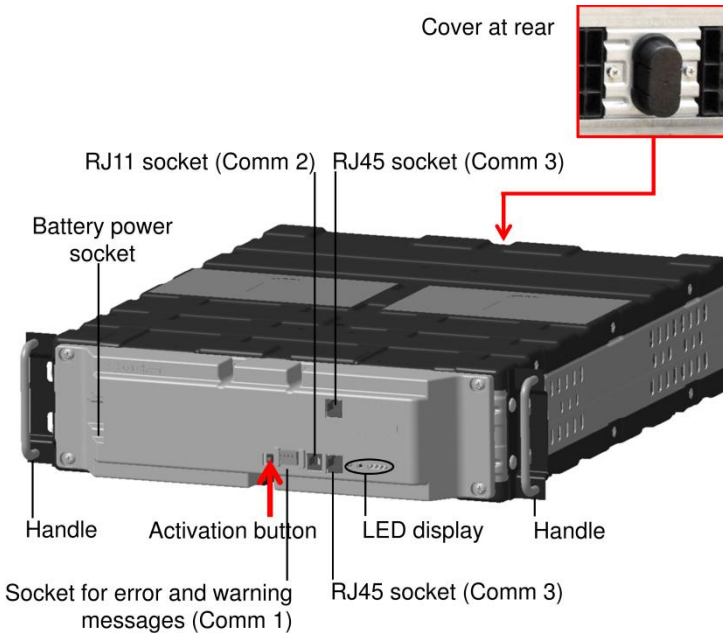
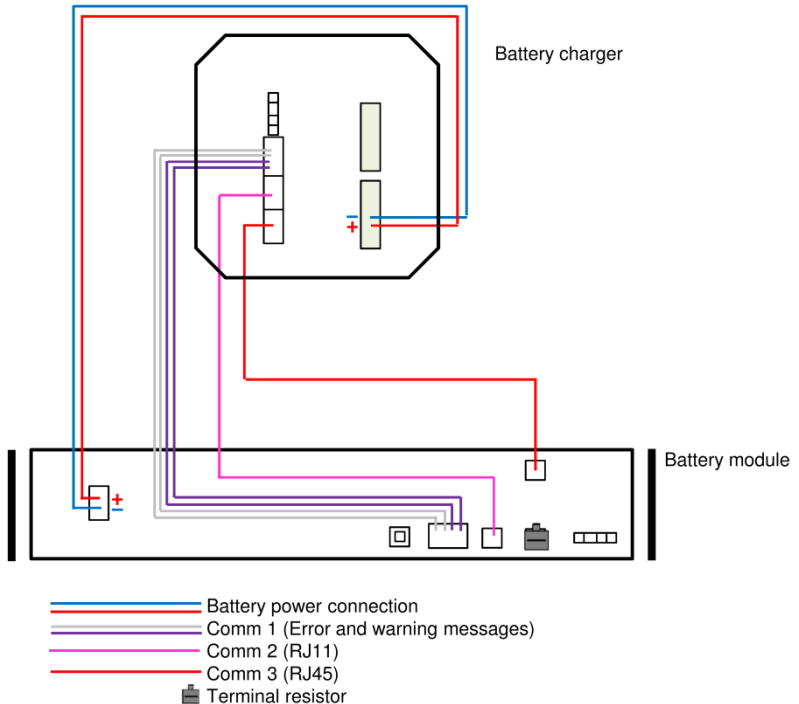
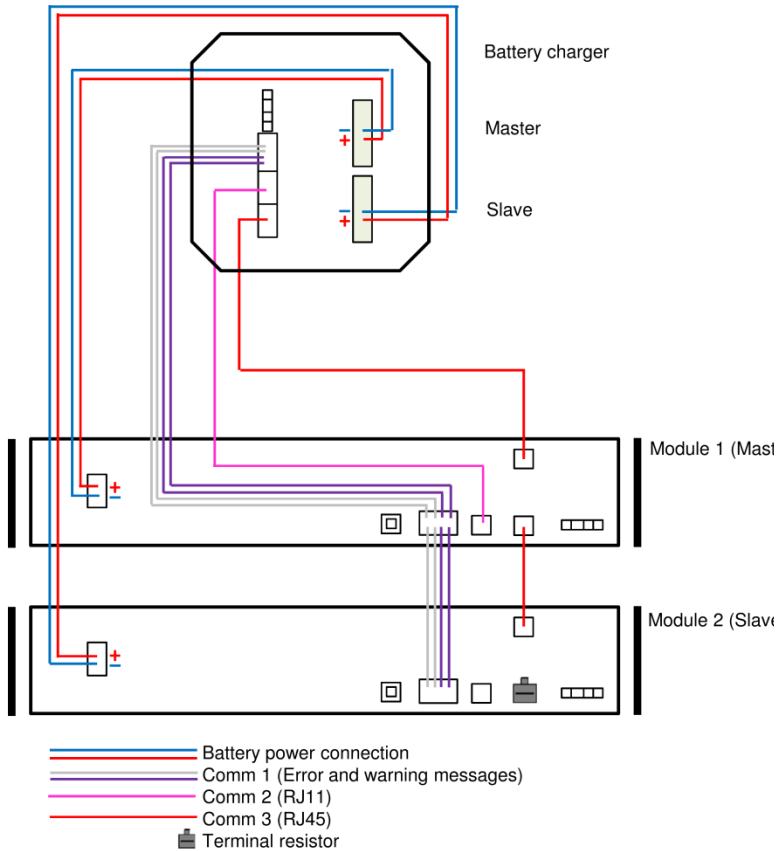

Figure 17: VATURA element 3/6 battery module
Figure 19: Connecting the battery charger to one battery module
Figure 21: Connecting the battery charger to two battery modules
- Remove the plastic cover from the rear Figure 17.
Make the connections according to Figure 19 (see also Figure 17).
- Press the activation button on the battery module (see Figure 17).
Make the connections according to Figure 21 (see also Figure 17):
- Press the activation button on the **master battery module** (see Figure 17).
- Check whether the communication cables are correctly assigned as shown in Figure 21. Re-arrange the cables if necessary.